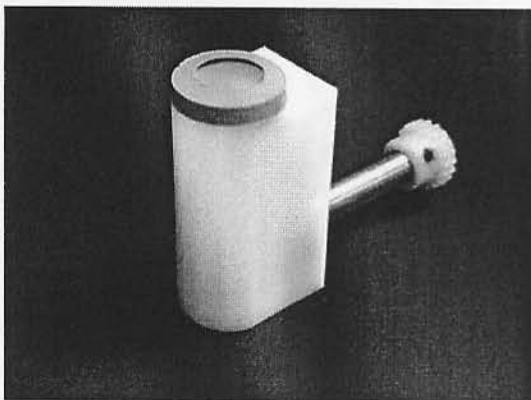

Fig. 36
l. Insert the mixing block and drive assembly (Fig. 36) through the hole in the front of the machine beneath the syrup manifold and check valve assembly.